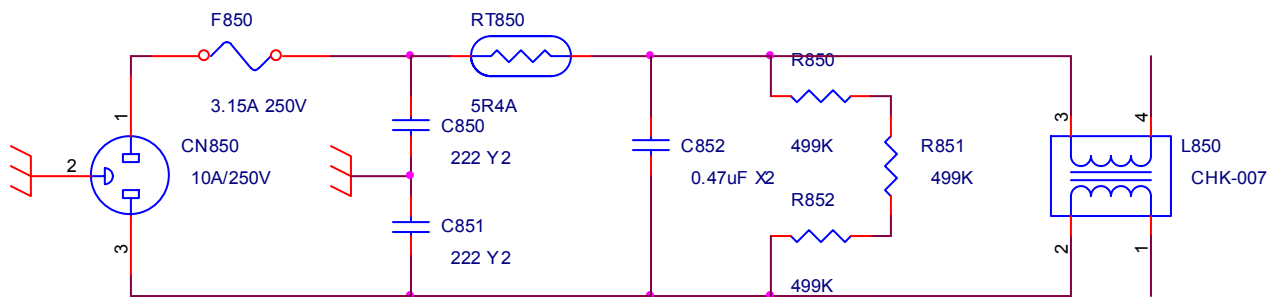

fig.2.2.1
2.2.1 AC Input and EMI Filter:(fig.2.2.1)